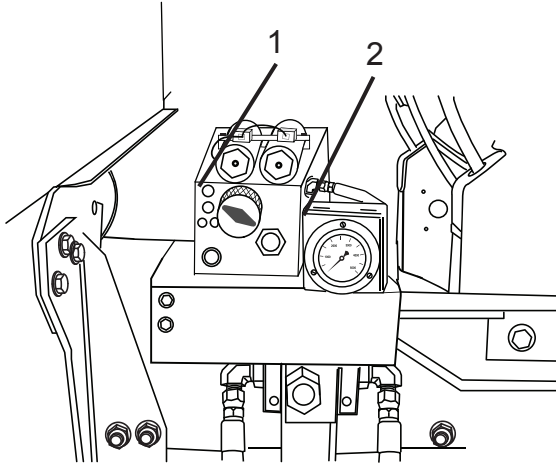

Figure 89
- Once the pressure requirements have been determined, use the PRV knob (Figure 89, Item 1) to adjust the pressure to the required pressure. Pressure will be displayed on the gauge (Figure 89, Item 2).